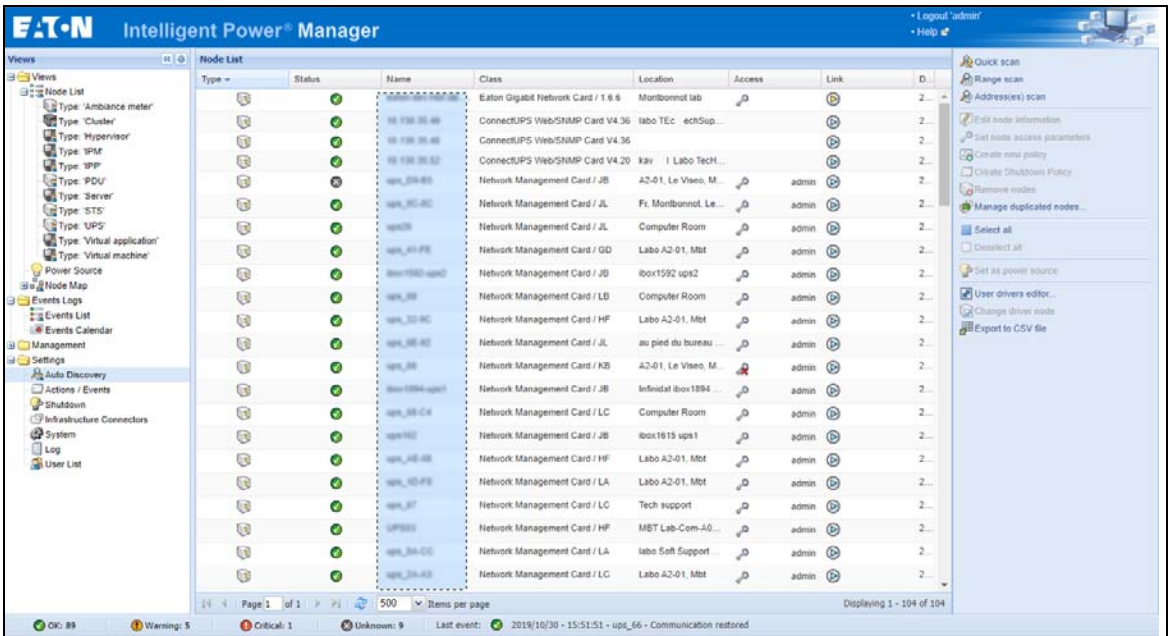

Figure 185. User Drivers Editor Selection
2. Select the  User drivers editor... button from the right panel (see Figure 185). The User drivers editor page displays.